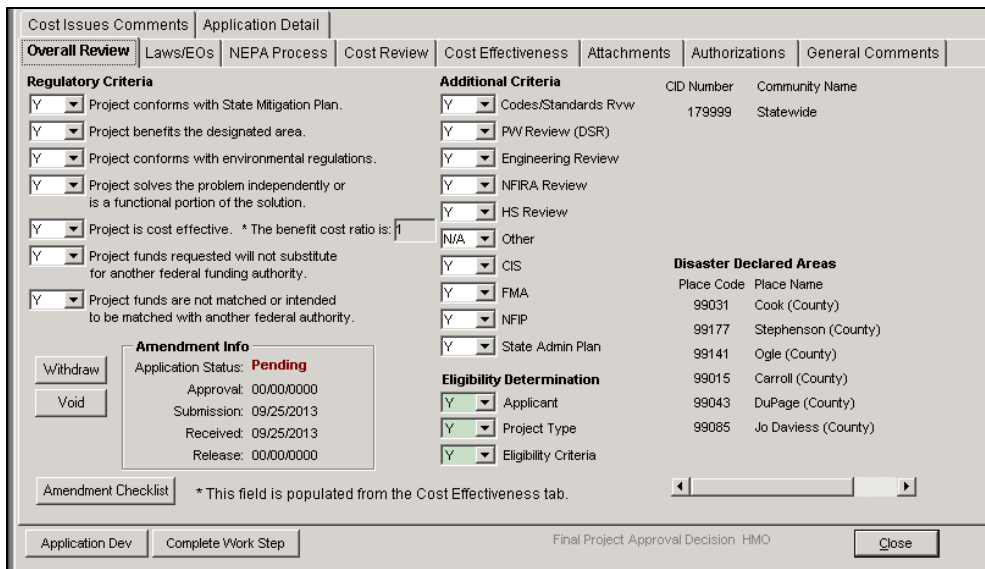

Figure 7-108: Mitigation > Projects > Eligibility Determination > Overall Review Tab
4. Click the OK button. The **Overall Review** tab is displayed by default (Figure 7-108).